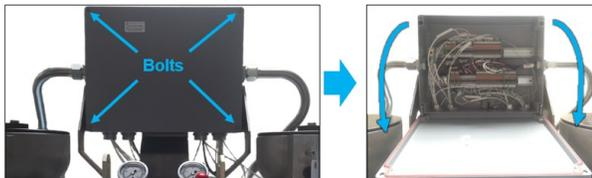

Figure 2-53. VS-DX J-Box Opening
30. Open the junction box by unscrewing the four bolts from the junction box front cover (use slotted screwdriver; 5.5×0.8 mm tip size) (Figure 2-53).